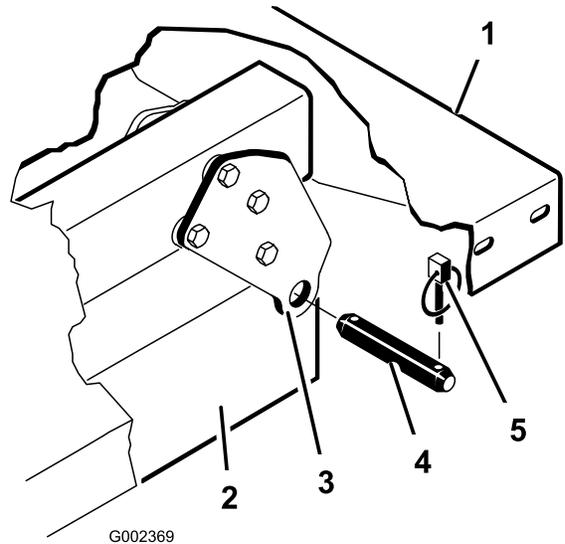

Figure 4
5. Remove the clevis pins securing the cylinder rod ends to the bed mounting plates by pushing the pins toward the inside (Figure 4).
6. Remove the lynch pins and clevis pins securing the pivot brackets to the frame channels (Figure 4).